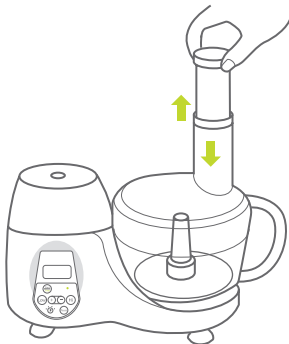

Fig. 13
4. The pusher has been provided with a pusher cap. (Fig.13)